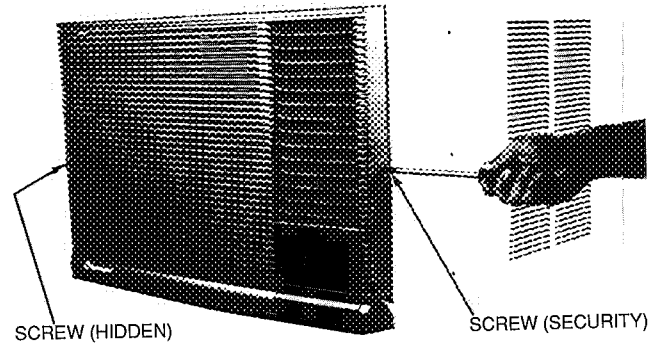

Fig. 2 – Removing 2 Screws from Front Grille
1. Remove 2 screws located on either side of front grille. See Fig. 2.